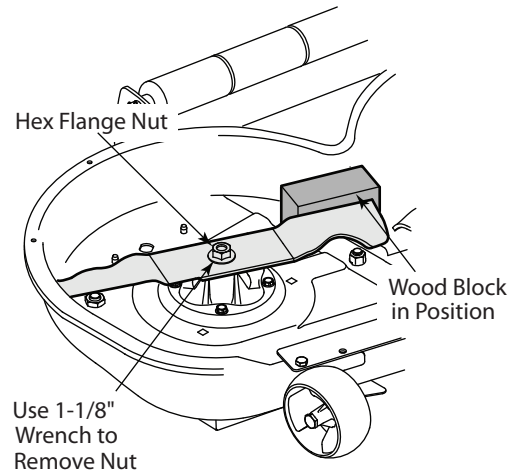

Figure 7-5
NOTE: A block of wood may be placed between the deck housing and the cutting edge of the blade to help in breaking loose the hex nut securing the blade. Refer to Figure 7-5.
- Use a 1-1/8" wrench to loosen the hex flange nut securing the blade to the bottom of the spindle assembly. Secure the spindle by either holding the blade tightly, or by using a second wrench to hold the head of the spindle bolt. Refer to Figure 7-5.